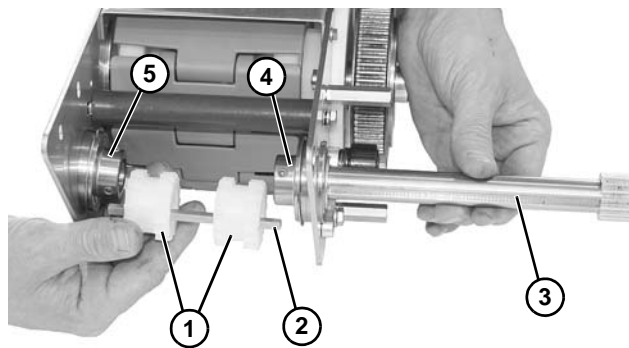

**Figure 69**
15. Remove drive shaft (**Figure 69, item 1**), making certain not to loose key (**Figure 69, item 2**) when removing gears (**Figure 69, item 3**).
16. Remove key (**Figure 69, item 2**) from gears (**Figure 69, item 3**).
17. Remove bearings (**Figure 69, item 4**) and replace if worn.